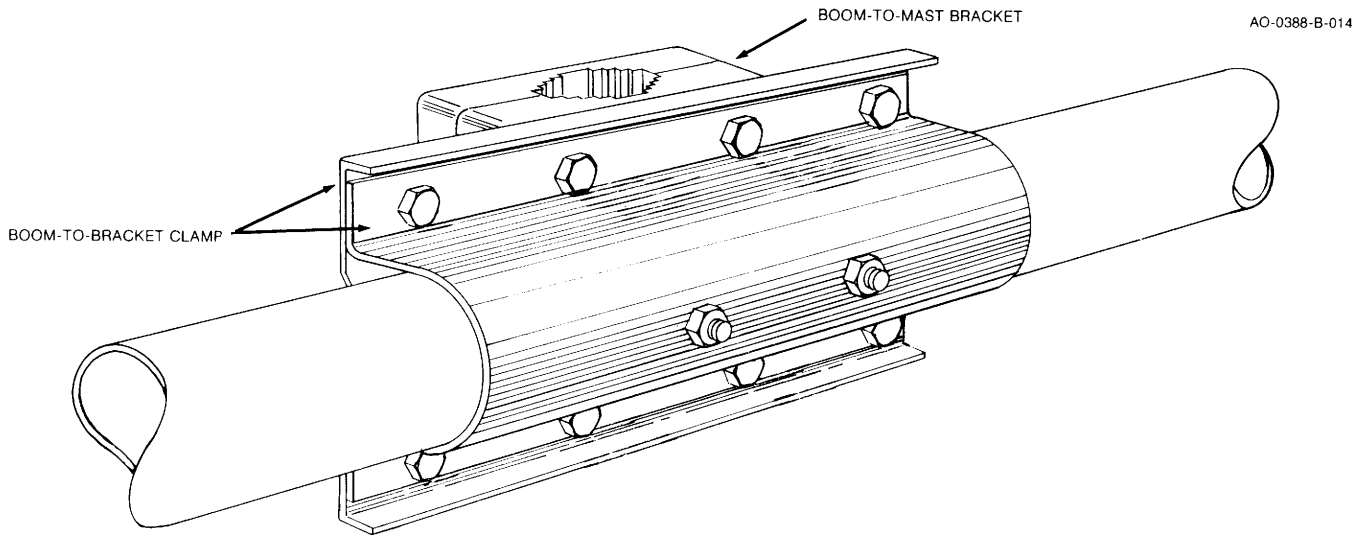

Figure 4
Select the cast aluminum boom-to-mast bracket (item 1). Align the holes in the boom-to-mast bracket with the holes in the boom-to-bracket clamp. Use the $\frac{5}{16}$ "-18 x 5" screws and the $\frac{5}{16}$ " nuts and split lockwashers to join the bracket and the clamp. See Figures 4 and 5. *Do not* tighten the screws at this time. The bracket must be loose to enable you to mount the antenna to the mast.